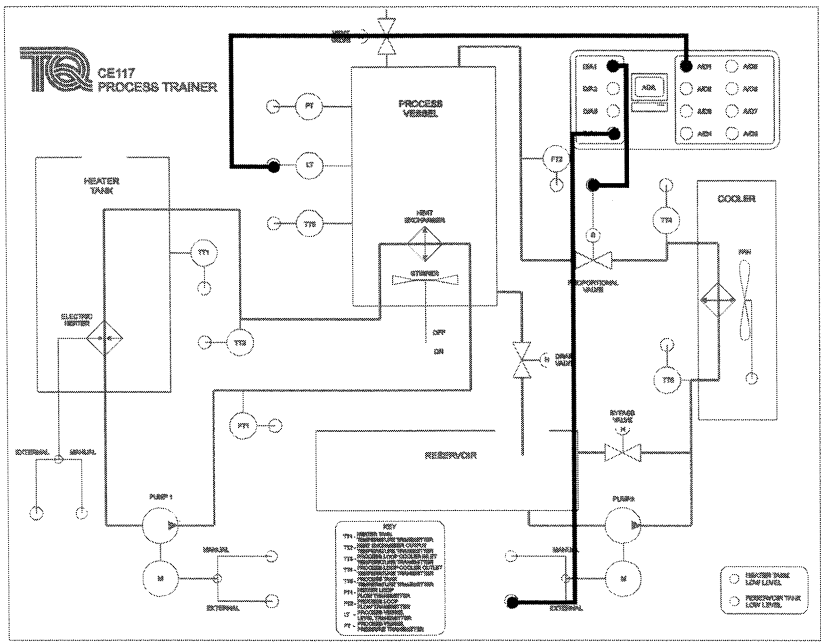

Figure 74 Connections for Experiment 7
- 1) Start the CE2000 software and load file 'exp7-1.ict'. Connect the CE117 Mimic Panel as shown in Figure 74.